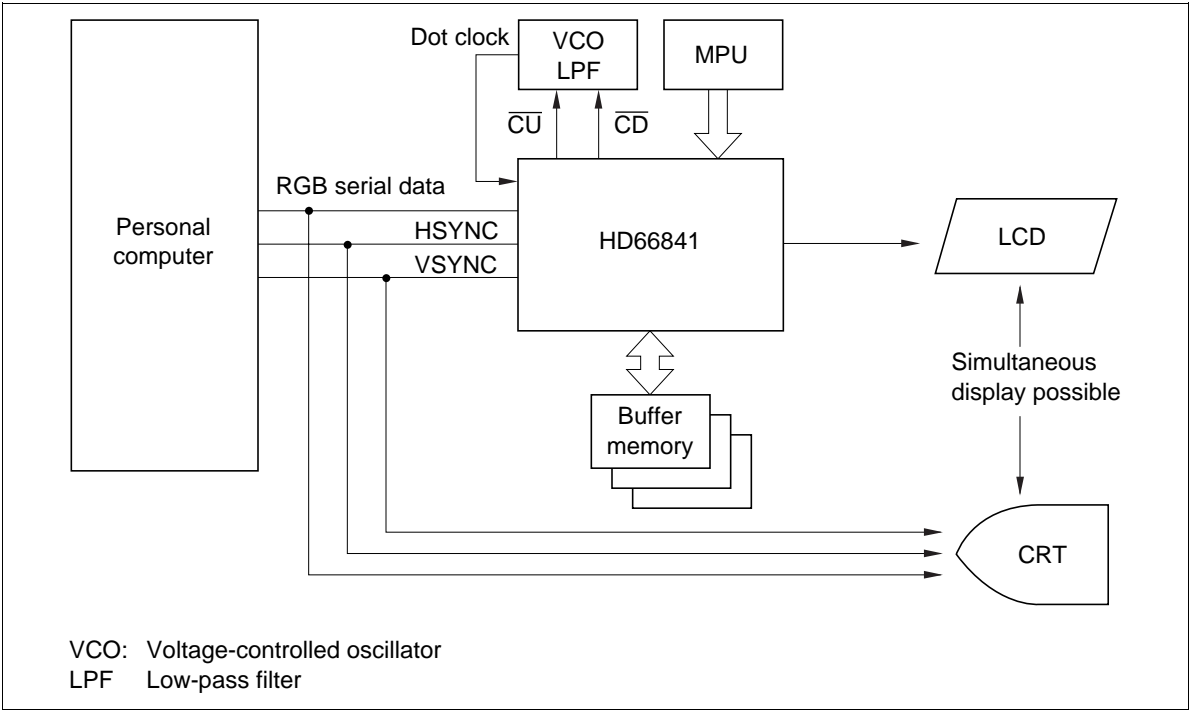

Figure 2 System Block Diagram
Figure 2 is a block diagram of a system in which the HD66841 is used outside a personal computer.
Internal Register Programming Method: In the internal register programming method, an MPU or ROM writes data into internal registers to control functions. Figure 3 illustrates the connections of MPU or ROM and the LVIC. Figure 2 (1) is an example of using a 4-bit microprocessor, but since the HD66841 MPU bus is compatible with the 4-MHz 80-family controller bus, it can also be connected directly with the bus of host MPU.